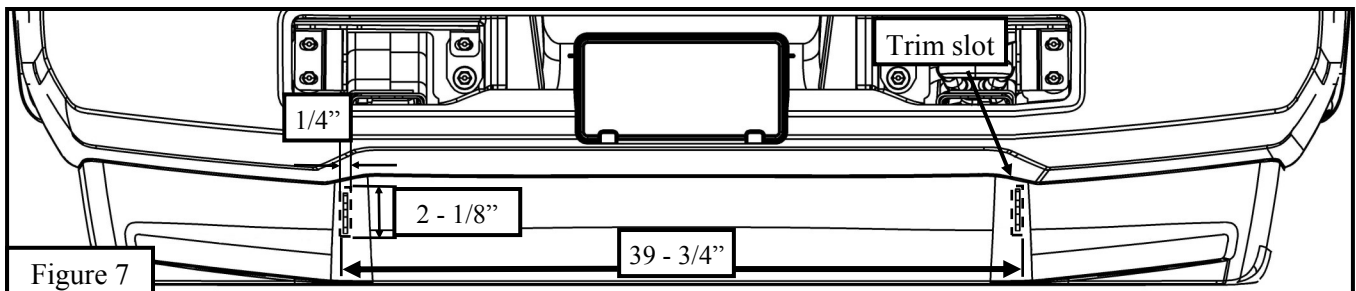

Figure 7
- On the lower plastic bumper trim (2) slots of approximately 2-1/8" x 1/4". From the center of the vehicle the each slot is approximately 19-7/8" from the outer edge of the slot. See Figure 7.